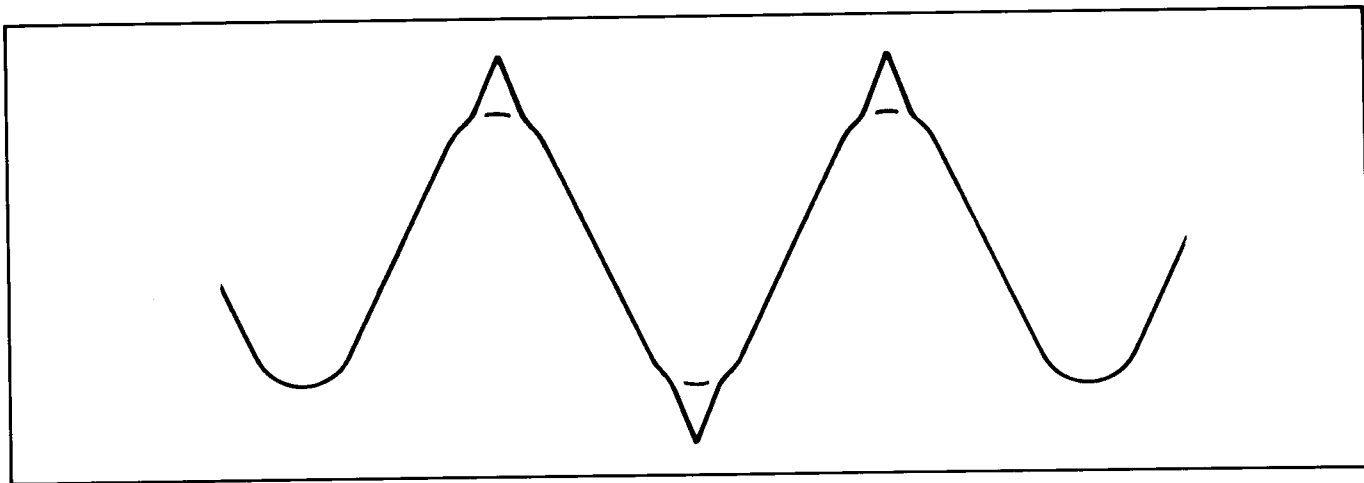

Figure 5-4. Distorted Sine Wave (TP1) When 24-Track or 1/4-Track Erase Head is Saturated
- If a scope is used, turn ERASE PEAK control C41 slowly clockwise and note voltage level just before a distorted sine wave appears. See Figure 5-4.